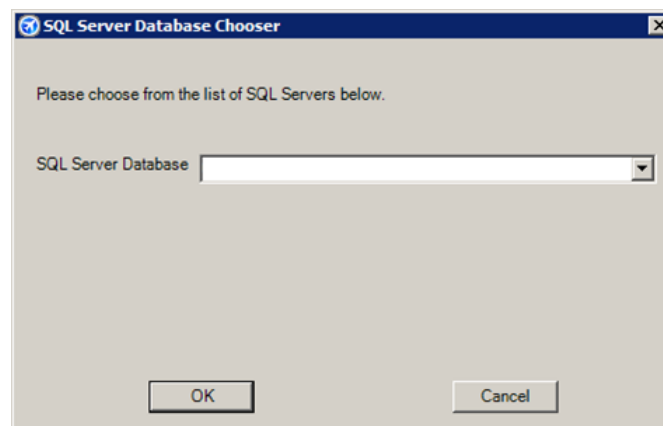

Figure 2-24 AEDT Setup Wizard – SQL Server Database Chooser
9. AEDT Setup Wizard will look for SQL Servers and display the *SQL Server Database Chooser* (Figure 2-24). Select a desired *SQL Server Database* from the drop-down menu. Click *OK*.